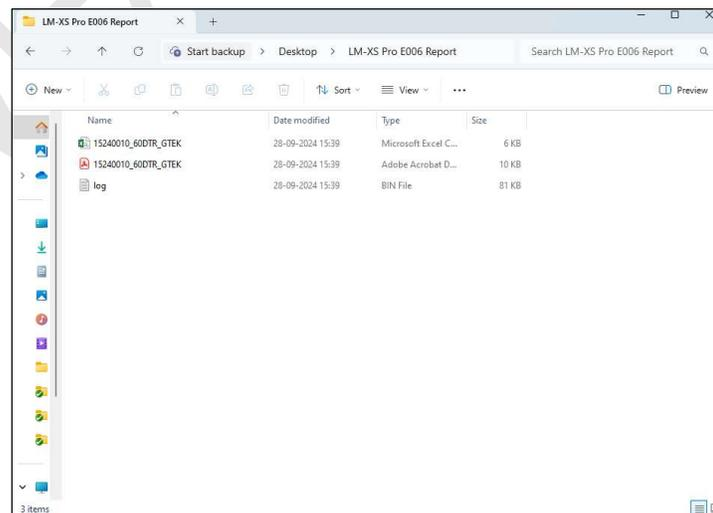

Figure 23 Save PDF/CSV report in selected file location
- Copy these files from the USB drive to the appropriate file location in the PC as shown in the figure 23.